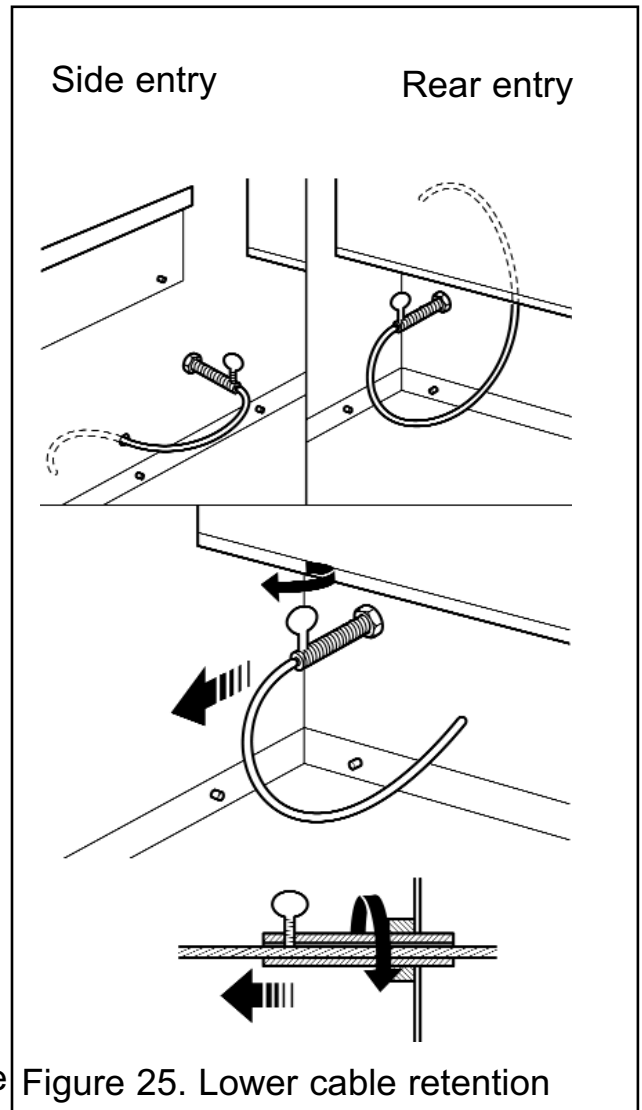

Figure 25. Lower cable retention
**11.** Pull each cable taut. Push the cable retainers hard up against the back panel. The end of the cable adjuster will pass into the hole. Tighten the screws in the retainers so that they clamp the cables in position. Apply tension to the cables by turning the hexagonal adjusters by hand (See figure 25).
**14.** Feed the free length of the cables into the gap between the inner and outer back panels so that they are available to allow easy removal and refitting of the appliance during subsequent service calls. **Do not cut off the free lengths of cable.** On precast flue installations feed the cables into the small holes at the base of the side panels (See figure 25)